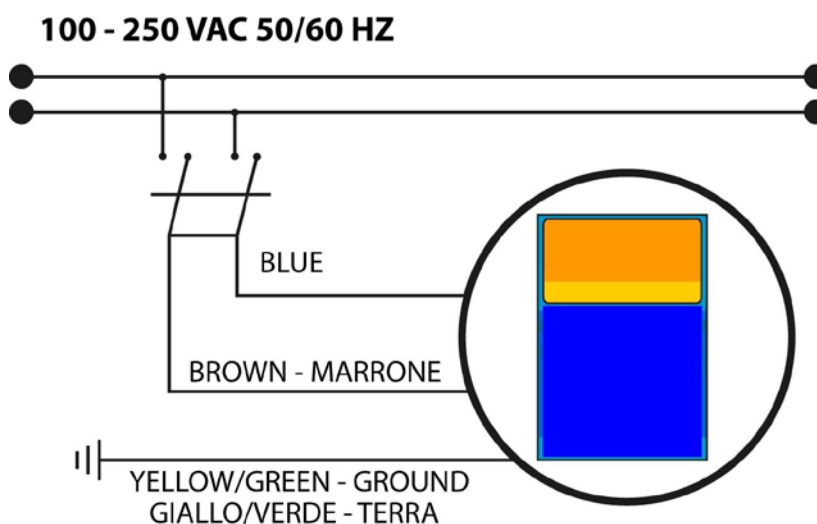

Fig. 2 – Electrical Connection
- Make sure that it is turned off electrically (both polarities) by disconnecting the connection cables from the contact points of the network through the opening of a phase switch with a minimum contact gap of 3 mm (Fig. 2).
Comply with the rules in force in the various countries with respect to the electrical installation. If the power supply cable is devoid of a plug, the equipment must be connected to the mains supply via a double pole isolator switch with a minimum distance between contacts of 3 mm. Before accessing any of the connection devices, all supply circuits must be interrupted (Fig. 2).